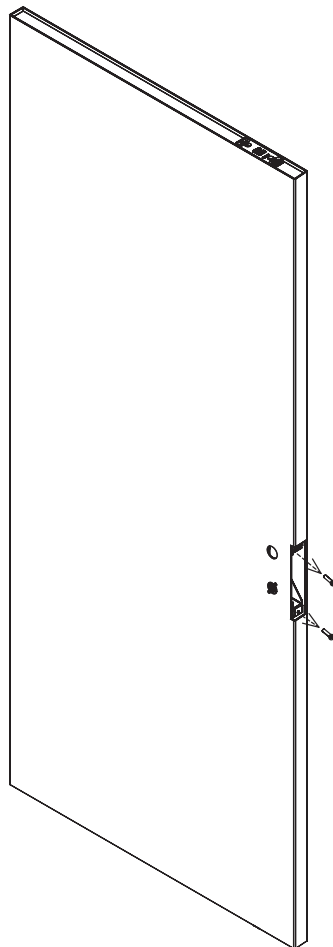
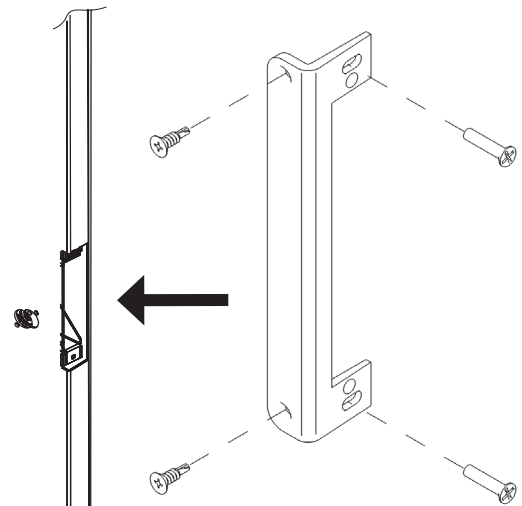

Figure 53
Figure 52
- Remove the two (2) #12-24x1" flat head LBC mounting screws that are securing the lockbody case in the door. (Figure 52)
- Reinstall two (2) #12-24x1" flat head LBC mounting screws (DO NOT FORCE).
- Install two (2) #12x1/4" self tapping screws through mortise reinforcer into the face of the door. (Figure 53)